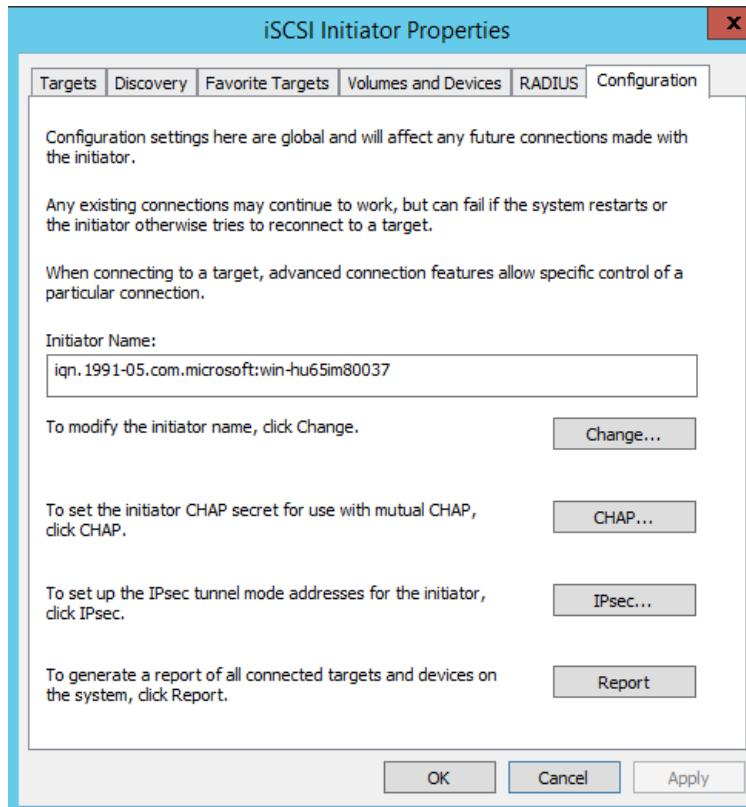

Figure 9-19. iSCSI Initiator Properties, Configuration Page
- b. On the Configuration page (Figure 9-19), click **Change** to modify the initiator name.